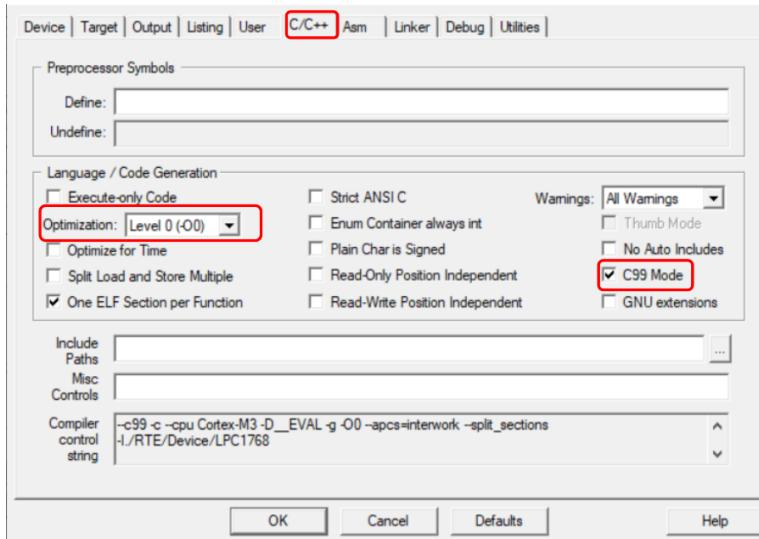

Figure 8.14: Keil IDE: Target Options C/C++ Tab Configuration
3. Configure the C/C++ tab as shown in Figure 8.14. To enable c99, we need to check the C99 Mode box. We also want to keep the default optimization level of zero.